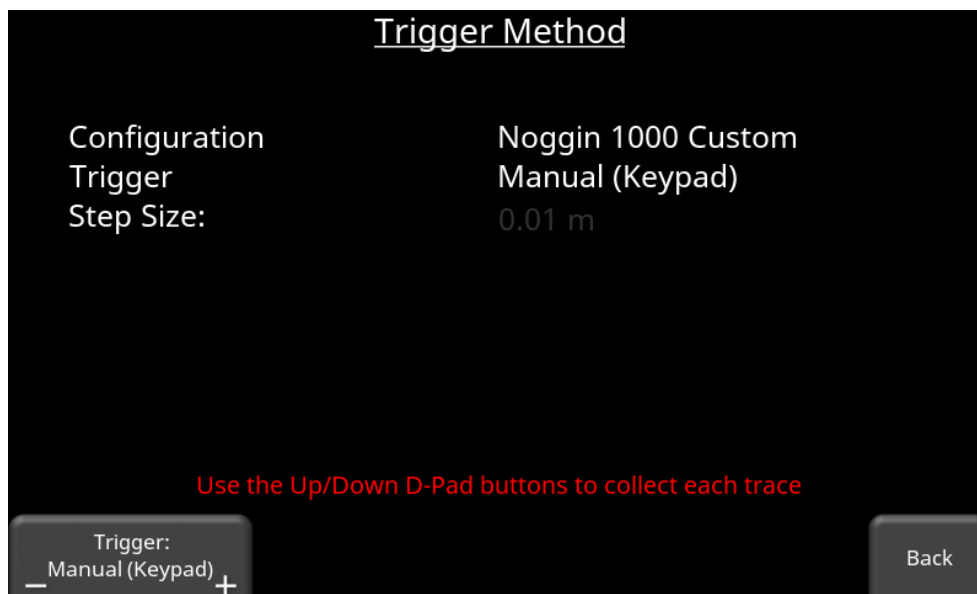

Figure 5-13: Trigger method set to Manual
- **Manual** – in this mode, you would press the up or down keypad button to pulse the Noggin during data collection (Figure 5-13). There are no settings in this screen